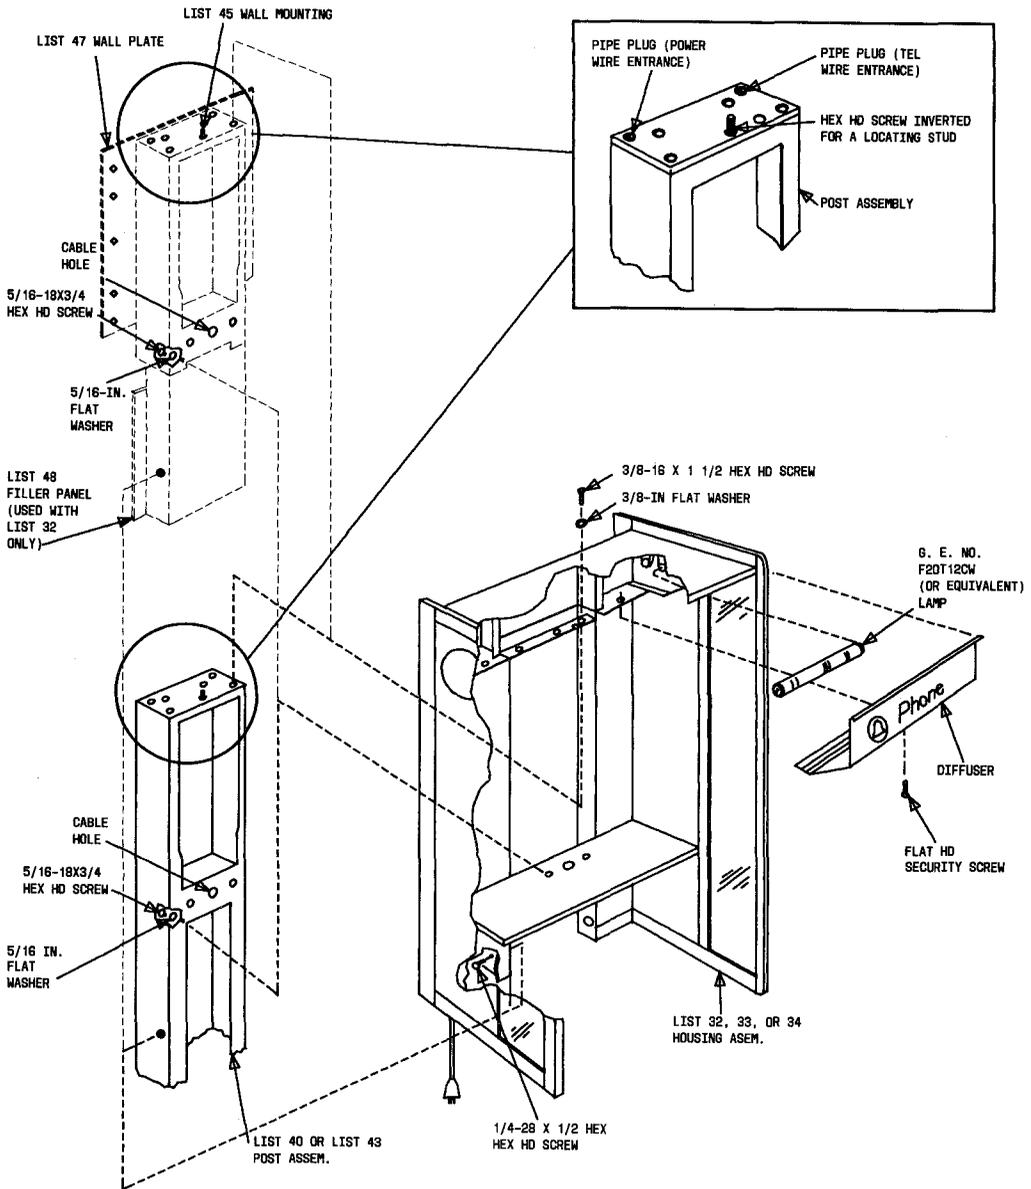

Fig. 32—Installation of List 32, 33 or 34 Housing on Post or Wall Mounting
- (d) Remove the center-front hex head screw and flat washer from top of post or mounting. Invert screw, and install it back in the same hole from the opposite side for use as a locating stud (Fig. 32).
- (j) When mounting a List 32 housing on a List 45 wall mounting, use a List 48 filler panel (Fig. 32). Slide the filler panel up in place and